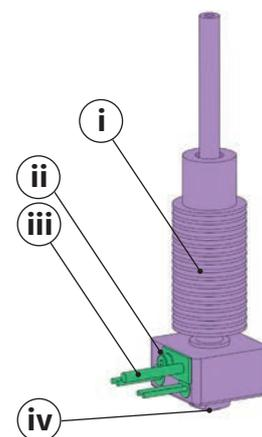

Fig. 6-1: Hot end
- › Control the hot end. If necessary, clean the nozzle (Fig. 6-1, (iv)). Mount the correct nozzle if there is a new hot end filament diameter